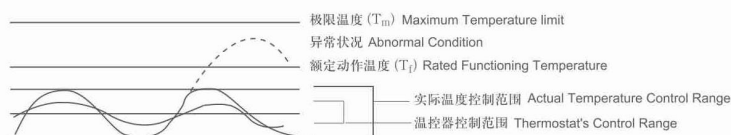

图 1 Fig.1
- 应用产品必须经过测试以确定当出现任何异常状况时都不会使温度保险丝周围温度超过极限温度（Tm），这种状况可能出现在一种称为“余热过冲”的状况下。例如：一个热风机在进风口或出风口堵塞时引起温度升高到 Tf，这时温度保险丝断开电路，但是，一个不正确的设计可能会引起装置提前开路 and 过度的余热过冲可能会损伤保险丝，应用产品须经测试以确定在正常的温度波动状态（如温控器的动作与复位引起的加热器温度波动）下，温度保险丝周围温度在温控器的通断循环中不会达到 Tm。（见图 1）
The end product should be tested to ensure that potentially abnormal conditions do not exposed the thermal cutoff to the temperature exceeding its Tm. This condition may occur in an "overshoot" situation. For example, an air heater may be subjected to a blocked inlet or outlet condition on attaining its Rated functioning temperature, the thermal cutoff will open. However, an incorrect design may cause the premature opening of the device and excess overshoot may cause shooting or damage to the thermal cutoff. The end product should be tested to ensure that under normal cycling condition (such as cycling of a thermostat), the thermal cutoff never reaches its Tf during the "on" or "off" cycle. (see Fig.1)